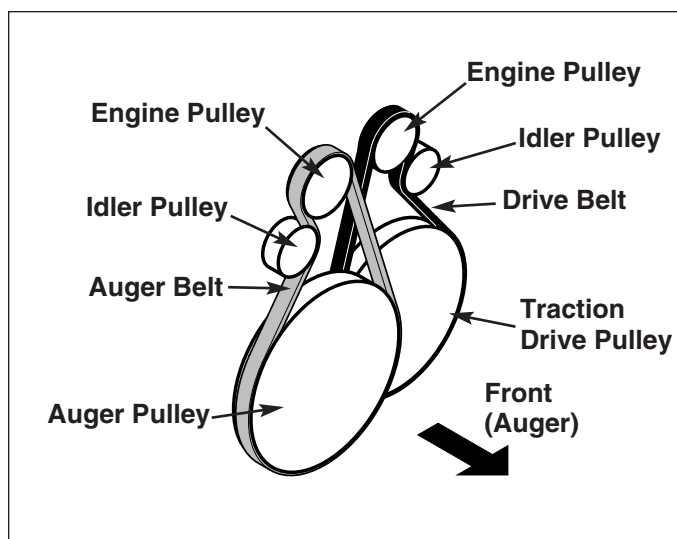

Figure 24. Drive Belt Paths
The snowthrower is equipped with two drive belts located just in front of the engine under the belt cover. Figure 24 shows both belts and idler pulleys. The belt nearest the engine is the unit traction drive (wheels) belt. The belt farthest from the engine is the auger/ impeller drive belt.
3. Pull the traction drive belt idler pulley arm (See Figure 24) away from the belt to relieve tension, and slide the belt off the engine pulley.